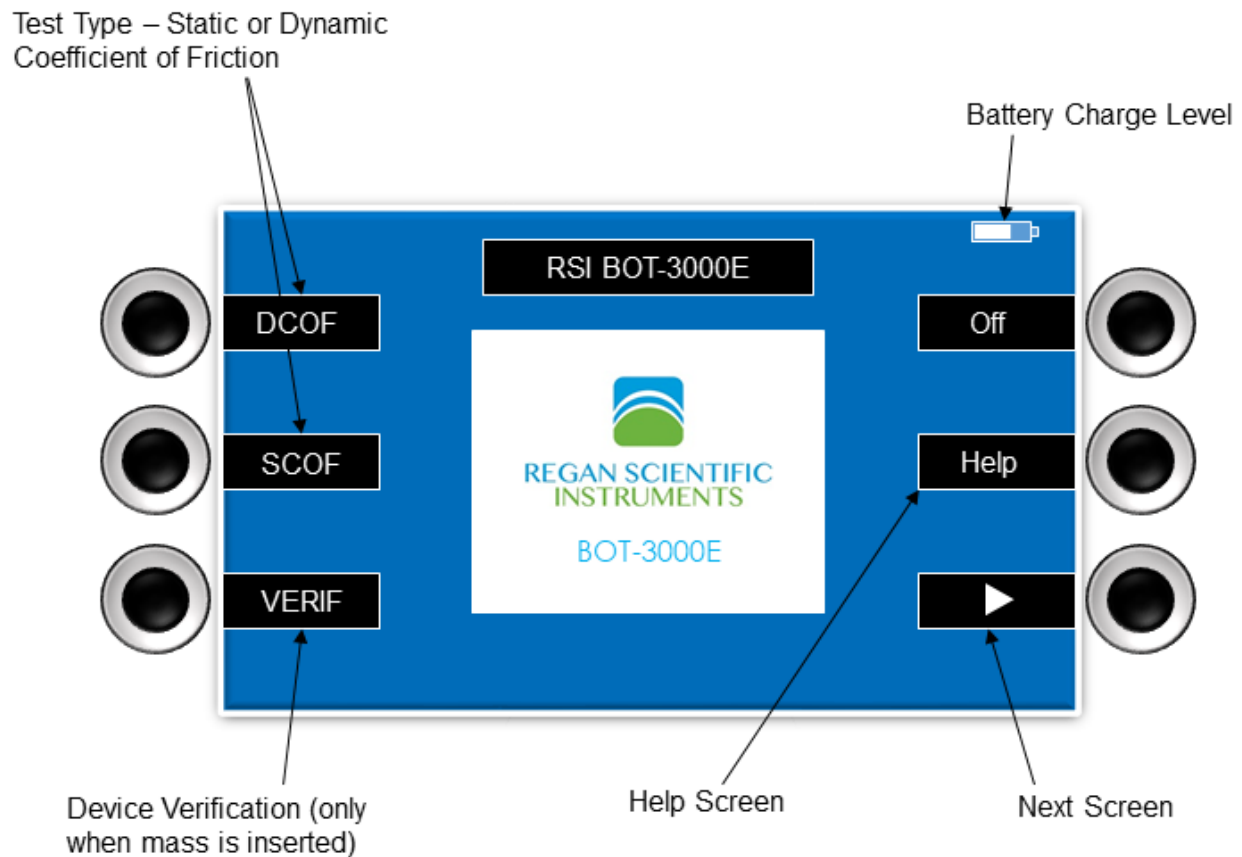

Figure 2
5. The VERIFY option indicator will appear (Fig.2, lower left screen).
4. Press the DCOF or SCOF switch according to the desired test type (Fig. 2).